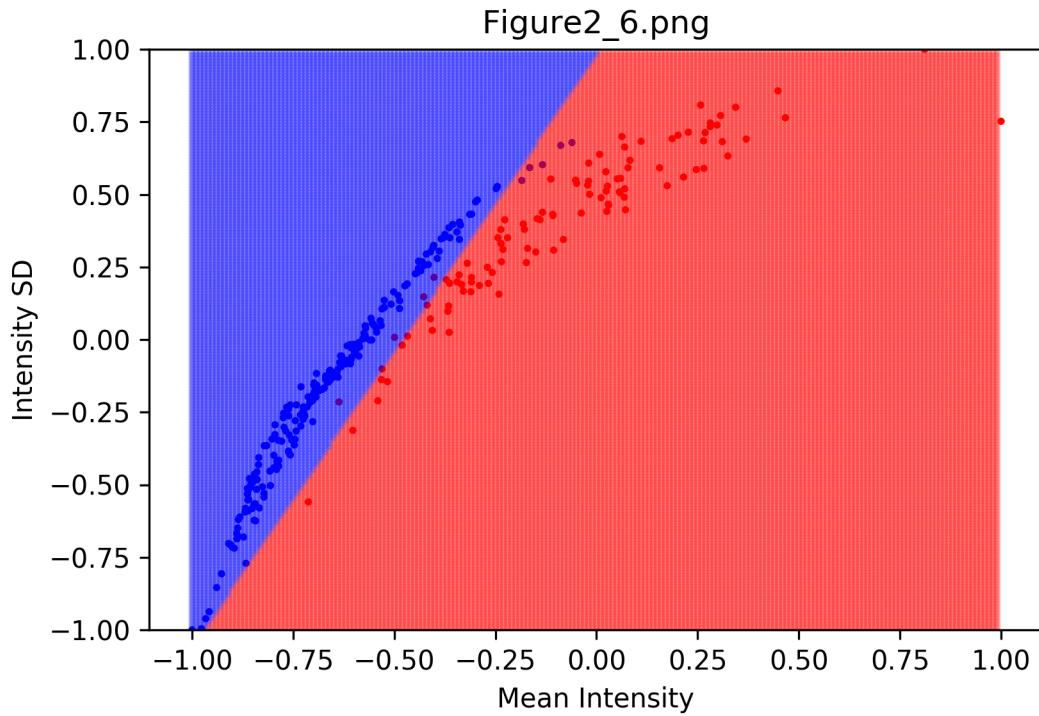

Figure 2.6. Decision region for 2D space with linear SVM with optimal $c = 30.703$.
See **Figure 2.6**.
e) Using your 2D data from HW1, find the values for ‘degree’ and ‘c’ that you believe finds the best fit for the model. Plot the decision region for this model (From figure 2.6) and explain why you think this model is best. Support your conclusion with data.